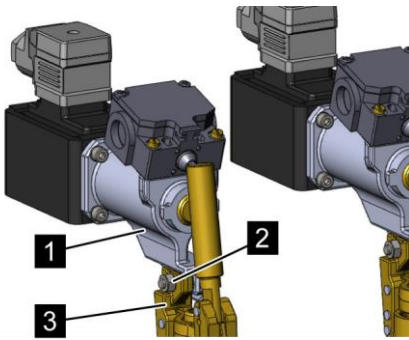

Fig. 108: Mounting the EM release device
8. ➤ First loosely fasten the holder (Fig. 108/1) of the EM release device with the included hex bolt (Fig. 108/2), hex nut and washer on the base (Fig. 108/3). Mount the washer in front of the slot hole of the EM release device.
11. ➤ Tighten the hex nut (Fig. 108/2).